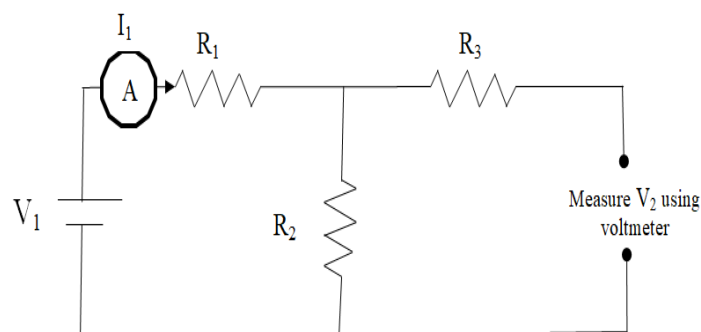

Fig 12.2 Sample circuit- case 2
1. Connect the circuit on breadboard as shown in figure 12.2